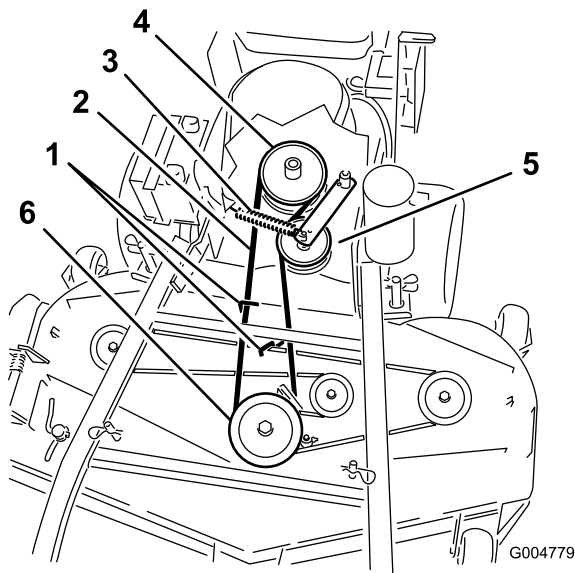

Figure 47
6. Roll the belt off of the center pulley on the mower deck (Figure 47).
7. Remove the belt from the engine pulley and the spring loaded idler pulley (Figure 47).
8. Install the new belt onto the engine pulley and spring loaded idler pulley (Figure 47).
9. Roll the belt onto the center pulley on the mower deck (Figure 47). Use caution when install the belt as tension will increase because of the spring loaded idler pulley.
11. Adjust the belt guide an 1/8 inch (3 mm) from the belt (Figure 47).